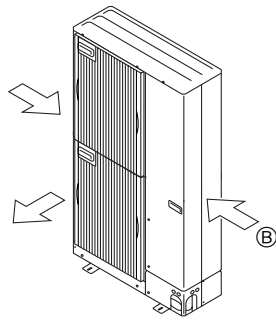

Fig. 2-16
② Position the unit so that the air outlet blows perpendicularly to the seasonal wind direction, if possible. (Fig. 2-16)